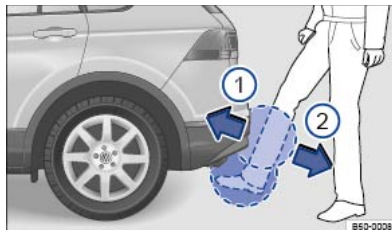

Fig. 73 Sensor-controlled luggage compartment opener (Easy Open).
- Move your foot and shin quickly towards the bumper. The shin must be placed in the upper area of the sensor, and the foot in the lower area ⇒ *Fig. 73*.